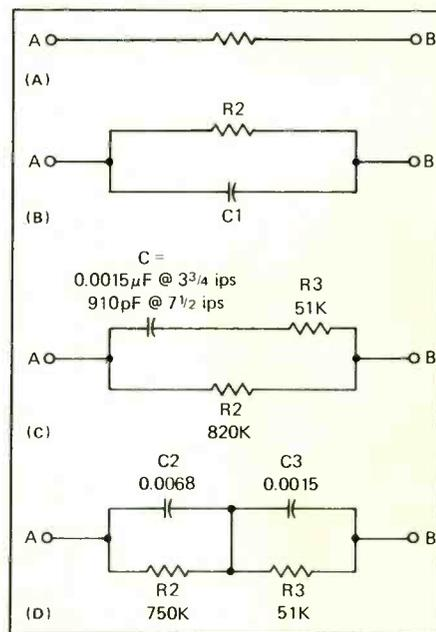

Fig. 4. Feedback networks commonly used in op amp circuits.
Several popular variations of the feedback network that find application in audio preamplifiers are shown in Fig. 4. Figure 4A is a wide-band amplifier that has a frequency response with no tailoring except by the natural bandwidth of the amplifier. The approximate available bandwidth for this circuit is calculated from the gain-bandwidth product ( $F_t$ ) of the device, which is the frequency at which gain drops to unity (1). The formula is  $F_t = \text{gain} \times \text{bandwidth}$ .
Remaining feedback networks in Fig. 4 are used in special preamplifiers. That in Fig. 4C is used for NAB-compensated tape preamplifiers, Fig. 4D for RIAA-compensated phonograph preamplifiers.